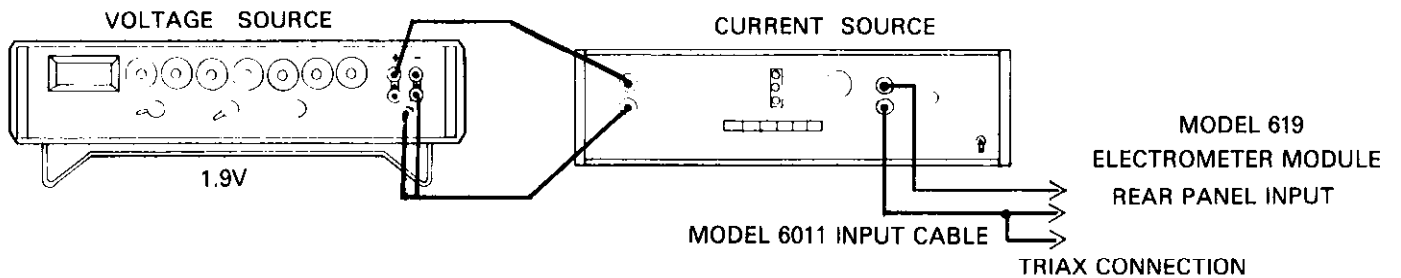

Figure 6-5. Range Calibration 20mA
6. 20mA Range Calibration: Zero Check the Model 619 and set it to the Amps function. Uprange to the 20mA range and verify a display reading of 19.000 -3 using Zero Correct if necessary. Release Zero Check and apply a + 19.000mA input, adjust R651 for a display reading of 19.000 -3 to within  $\pm 2$  counts. Refer to Figure 6-5.